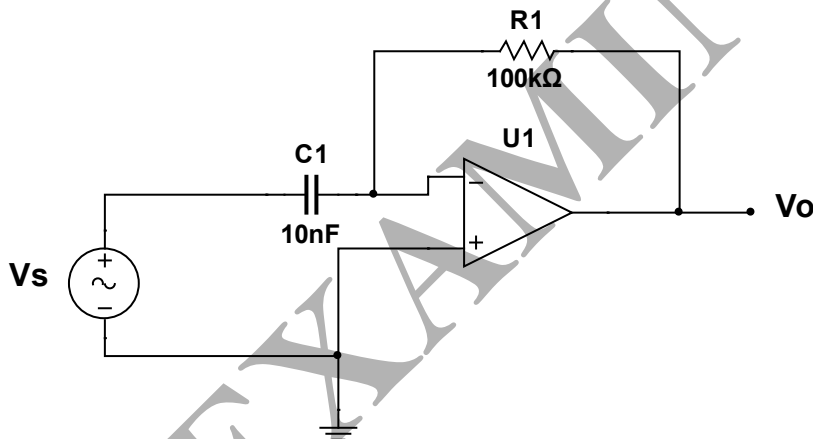

Figure 4
- (a) For the medical signal processing circuit shown in **Figure 4**, derive an equation for V_o , if the applied signal is; $V_s = 10mV \sin(1000t)$. [8 Marks]
- (d) Describe a medical application for the circuit shown in **Figure 4**. [7 Marks]